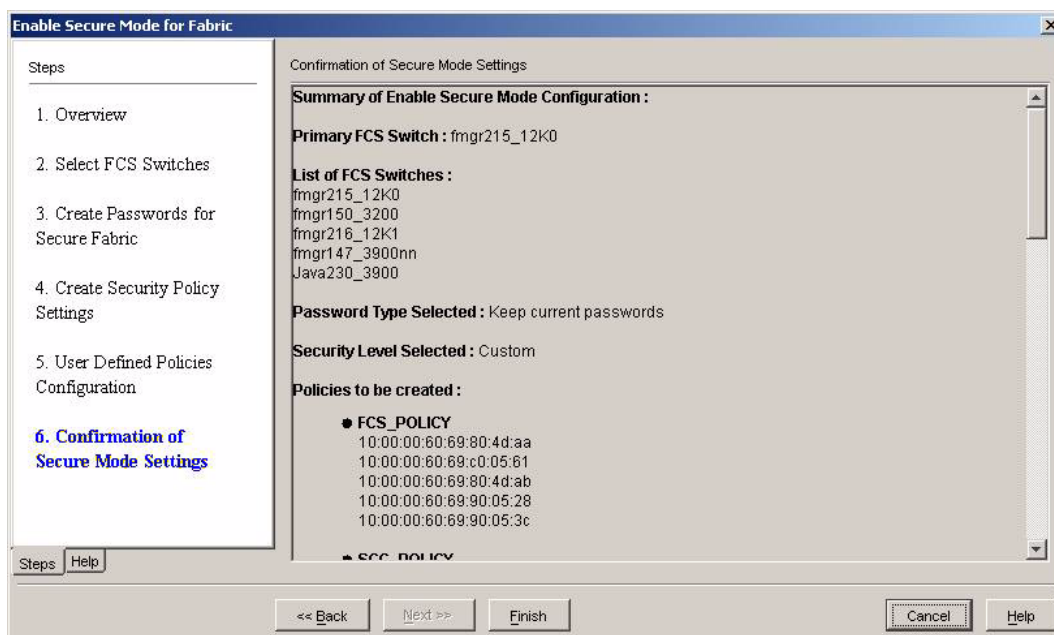

Figure 172 Confirmation of secure mode settings
13. Click **Next** if you are finished enabling secure mode (see Figure 172 on page 282 and skip to step 22), or click the **Custom** button if you want to customize the security level settings.
The Confirmation of Secure Mode Settings window opens (see Figure 172).